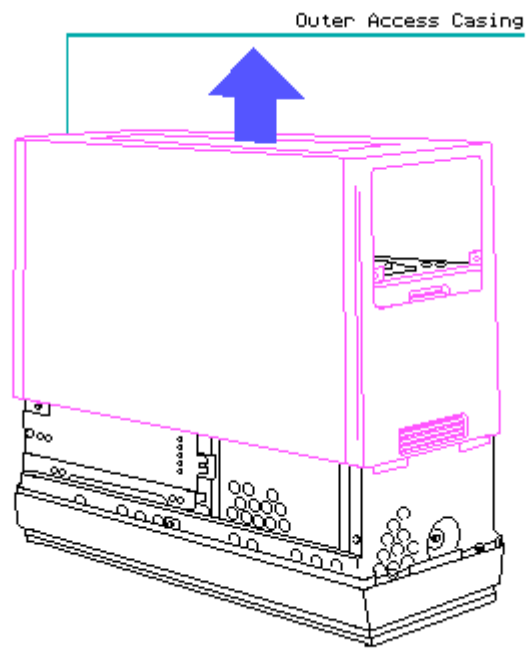

Figure 7-8. Removing the Outer Access Casing
3. Remove the outer access casing by grasping it close to the AC power and peripheral connector access panels and sliding the cover towards you. Slide it completely off the system chassis (Figure 7-8) and set it aside.